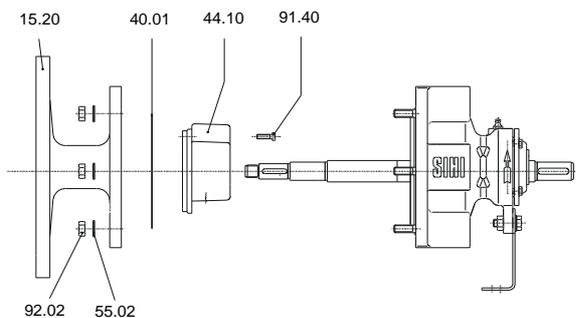

Fig. 3
7. Loosen hexagonal nut 92.02, remove washer 55.02 and dismantle intermediate flange 15.20, removing flat gasket 40.01. (fig.3).